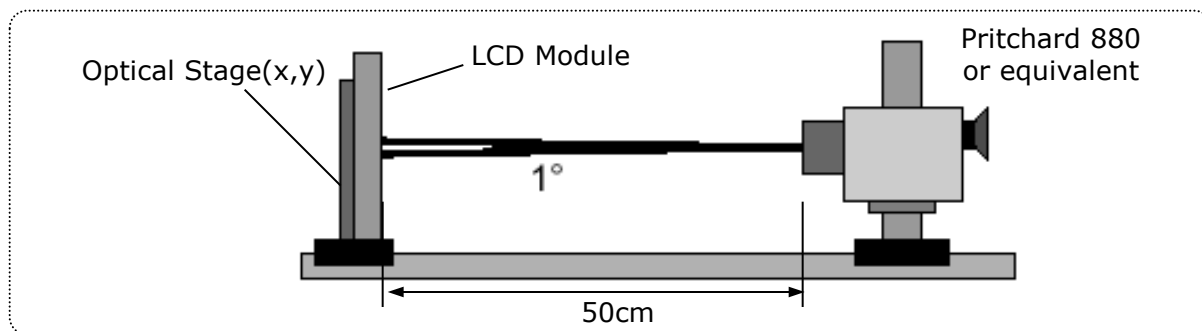

FIG. 7 Optical Characteristic Measurement Equipment and Method
2. **Surface luminance** is the luminance value at center 1 point (1) across the LCD surface 50cm from the surface with all pixels displaying white. For more information see Figure 7. **(By PR880)**